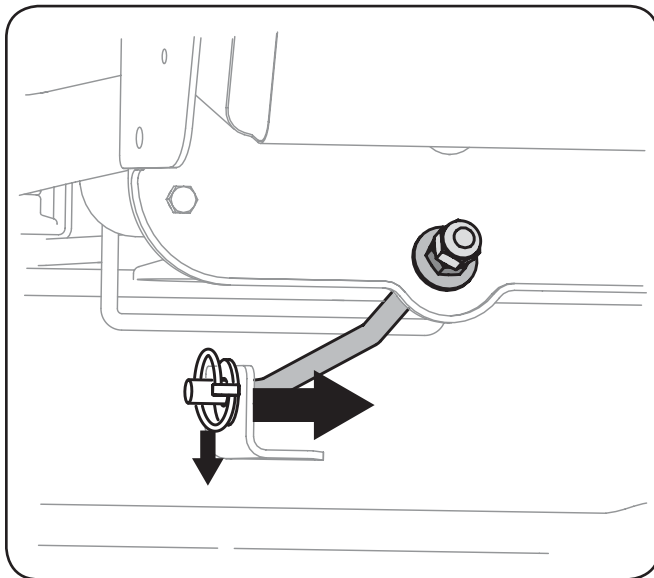

**Figure 7-4**
9. Remove the cotter pin from the end of the stabilizer rod and slide the stabilizer out of the hanger bracket on the deck. See Fig. 7-4.